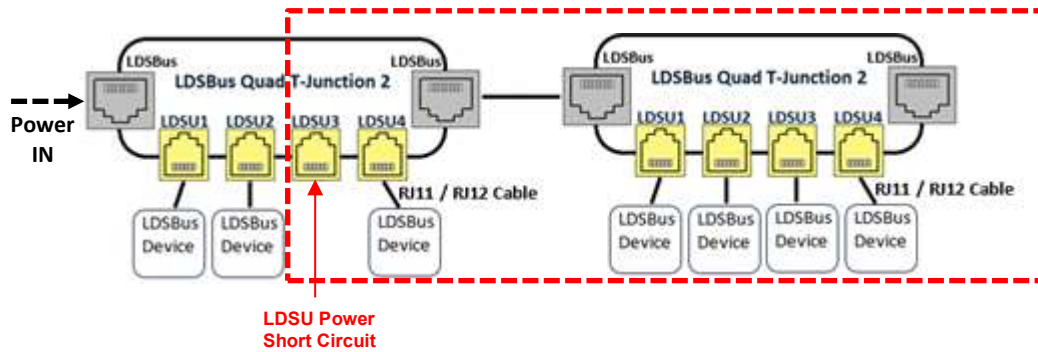

Figure 8 - Short Circuit at 5V output port during start-up
- Power will be cut off on LDSU3 port including any subsequent LDSU ports and LDSBus (indicated by a dotted line in Figure 8).